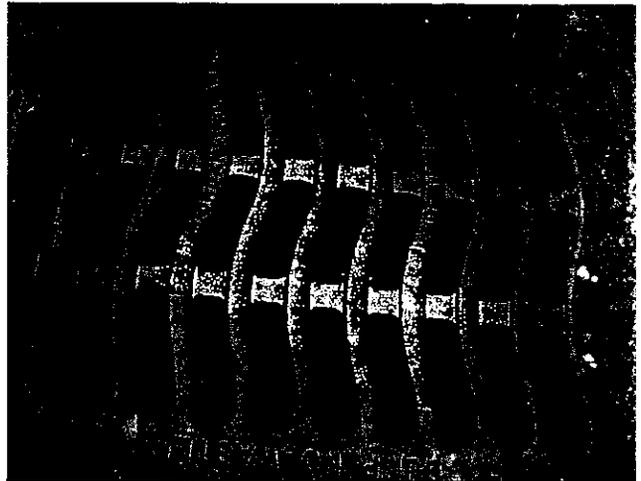

Figure 2 – Sediment has collected in the catch basin by the construction trailer.
2. Sediment has collected in the catch basin nearest to the construction trailer (Figure 2). Please remove the sediment from this basin and maintain the inlet protection that surrounds it. Also, as additional catch basins are installed and connected, please use the same type of inlet protection to prevent sediment from entering these storm drains.